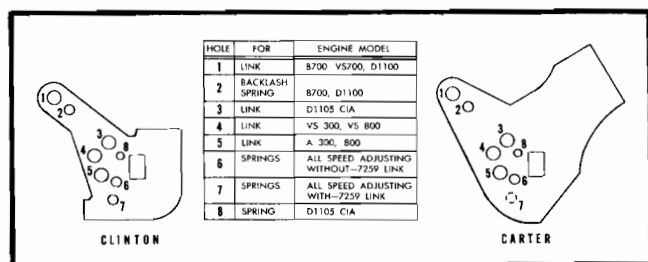

**Figure No. 30—Air Vane Governor Linkage**
1. The air blast created by the finned flywheel operates the air vane governor. The air vane is located inside the blower housing and linked directly to the throttle lever. The air vane governor is positioned in respect to the air blast by a light coil spring attached to the throttle lever or, in some instances to the governor link. (See Figure No. 30.)